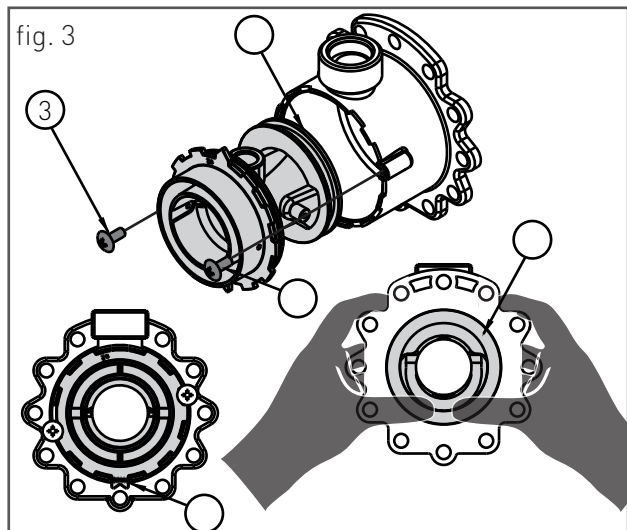

fig. 3
- › remove the two screws '3' (fig.3) and apply pressure on the rear side of the venturi 'C' (fig.3);
- › replace the venturi body with the one suitable for the type of mains gas (for 28 kW cod. 30-00232 per metano / cod. 30-00169 per LPG) (for 34 kW cod. 30-00207 per metano / cod. 30-00201 per LPG) and make sure the tooth 'D' (fig.3) is adjusted downwards on the aluminium ring nut (see fig.3);